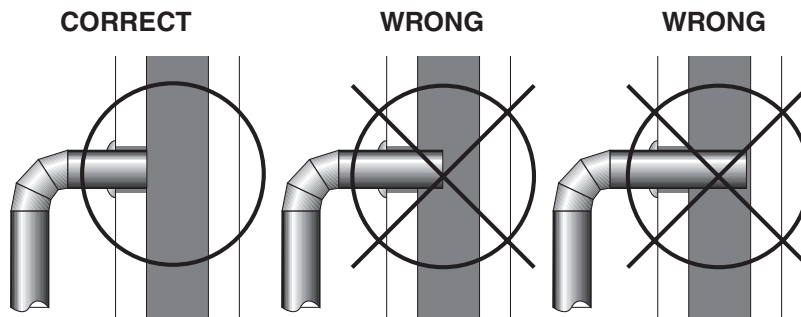

Fig.5 – Stovepipe/Flue Connections
4. The pipe cannot extend into the chimney flue (fig. 5).
5. Secure pipe/elbow sections with three (3) sheet metal screws at each joint to make the piping rigid.
6. It is recommended that no more than two (2) 90 degree bends be used in the stovepipe installation. The use of more than two 90 degree bends may decrease the amount of draw and possibly cause smoke spillage. Where possible, use only corrugated (nonadjustable) elbows. These provide a better seal.